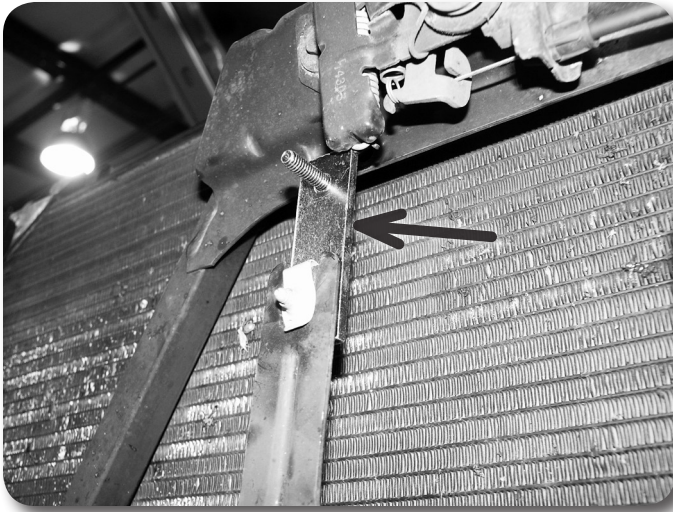

Figure 22
53. Attach the provided 2" relocation brackets to the cooler using the repositioned nut clips and factory bolts. The threaded stud on the relocation bracket should be facing out away from the radiator **Figure 22**. Be sure the relocation brackets are vertical and torque the factory bolts to approximately 15 ft-lbs.